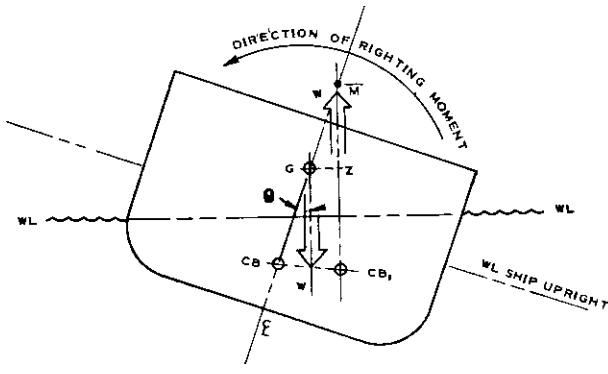

FIG. 9
Illustration, Fig. 8 shows a transverse section of a ship as she floats upright in water. In this instance, the weight of the ship, W , acting downward through the CG of the mass of the ship, is equal to the reactive force acting upward through CB and both forces are therefore in the same vertical line. For this reason, the ship will be in a state of equilibrium and will remain in an upright position unless external forces such as wind and waves disturb its equilibrium and causes it to heel to one side as shown in Fig. 9.
2. Ship heeled. In Fig. 9, the weight of the ship, W , is acting downward through the CG of the ship. This CG does not change due to the heel but remains a fixed point unless a change of weight location is made in the ship itself or by adding or removing cargo or any other heavy weights.
3. Initial stability, GM, righting moment. In Fig. 9, note that a change in the righting arm, GZ , affects the distance GM . This distance, GM , is a measure of the ship's initial stability. Within a limited heel of 10 to 15 degrees, the GM , which indicates the ship's initial stability, can be expressed as follows:
As indicated, the CG is above the metacenter, M, and the moment $W \times GZ$ now tends to increase the heel rather than oppose it as for the stable ship in Fig. 9. Considering the ship represented by Fig. 11, addition of weight such as snow, or deck cargo or burning out of fuel will raise the center of gravity and may result in an unstable condition. For example, what result will burning of 1500 tons of fuel from the double bottom tanks (KG-2 ft.) cause upon the stability of the ship, assuming no change in location of metacenter?